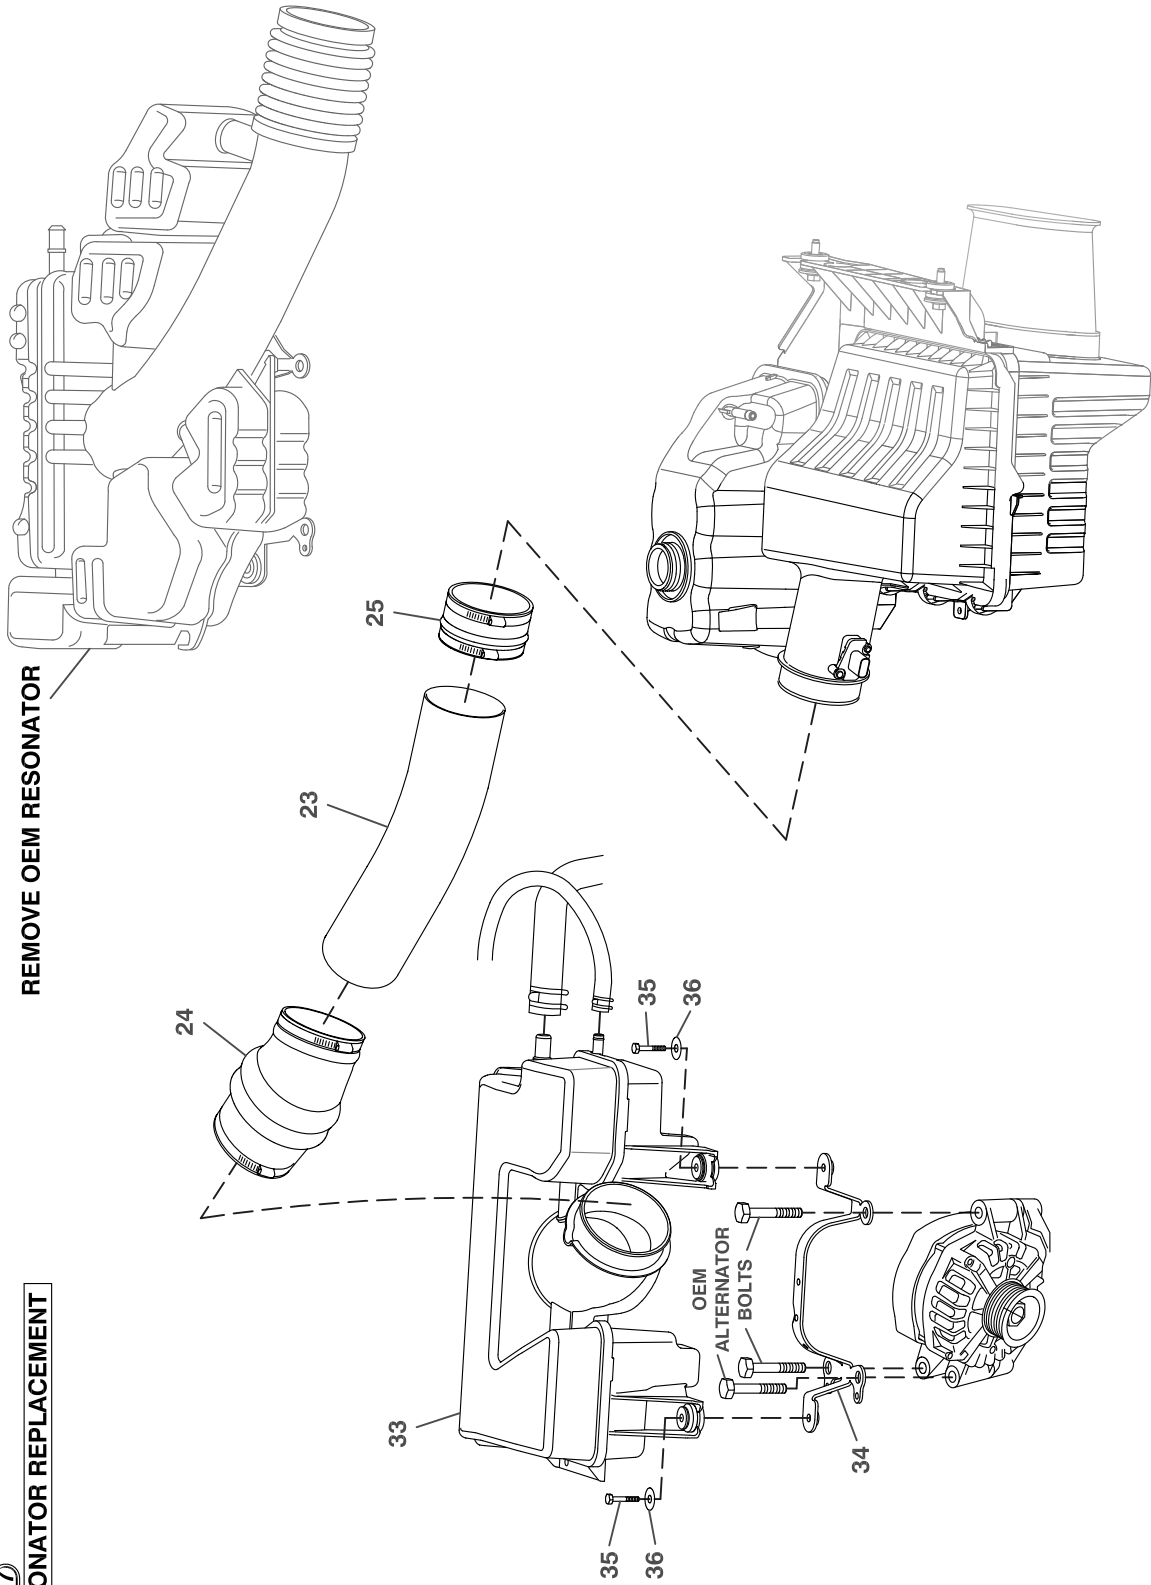

FIG. 7
3. Remove the two bolts mounting the resonator. Remove the resonator/air tube. Remove three alternator mounting bolts and remove the resonator mounting bracket (34). Install the new resonator bracket (34) with the OEM alternator bolts. Install the new resonator (33) using two M6 x 30 bolts (35) with two 1/4 flat washers (36).
4. Drain just enough of the engine coolant to remove the upper radiator hose from the engine water neck. Insert the hose splice (28) into the OEM radiator hose, push the short piece of radiator hose (29) onto the splice and onto engine with two 1.5" hose clamps (30). Unclamp the hose from the top front of the coolant tank (Location M), thread it between the power steering reservoir and the fan shroud and connect it back to the coolant tank. Replace coolant.
5. The supply hose for the power steering pump must be rotated to clear the new belt routing. Hold the spring clamp with locking pliers, and rotate the hose as far towards the driver side fender as possible. Using a cable tie (31), secure the steering hose to the radiator hose running between the coolant tank and the radiator. On 2012 and newer trucks, pull the wiring cable from the attachment point on the front of the driver's side valve cover at Location P, Fig. 7. Cut off that tab from the cover to give clearance for the belt.